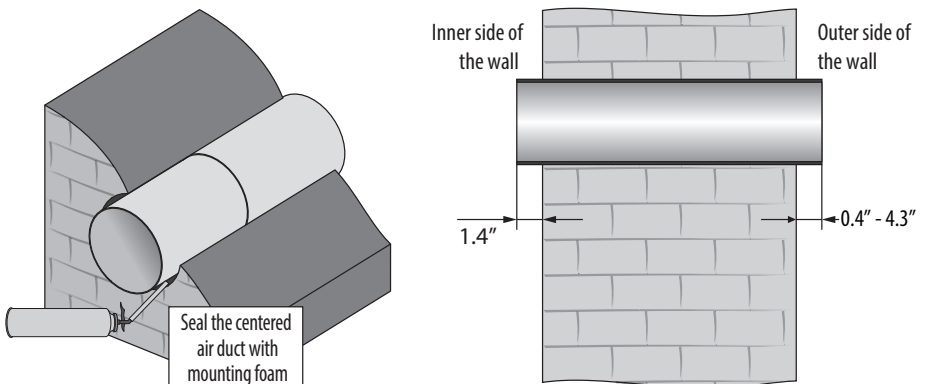

Figure 2
2. Install the telescopic duct inside the wall, center the air duct using the mounting plate, and seal it with mounting foam as shown in Figure 2.